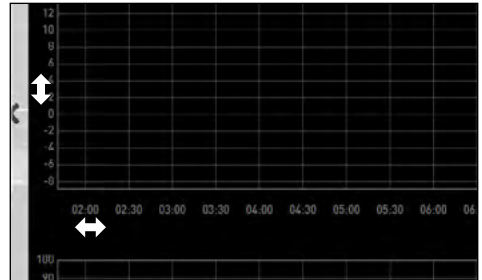

*Fig. 9*
- ▶ If you want to see a time range longer than two days, click on the rightmost symbol of the top toolbar (Fig. 9). This will open a window in which you can select the time range you want to see.